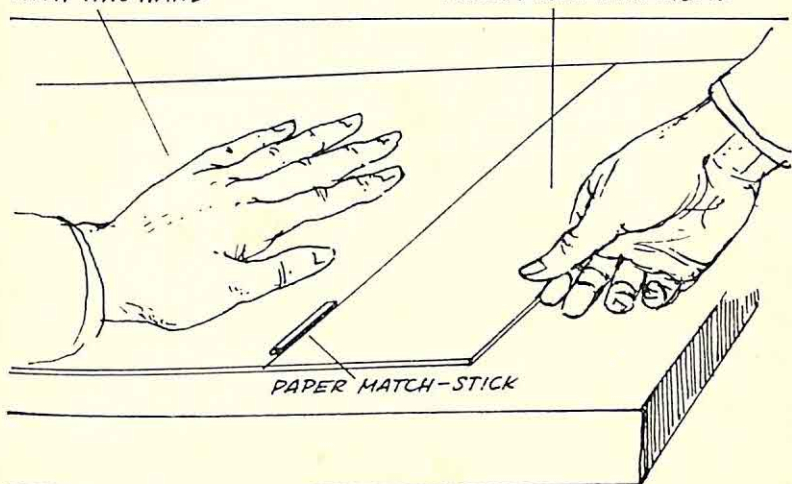

Figure 80
2. Place a paper match-stick or similar-sized piece of wood or a thin ruler *under* the glass as shown in Figure 80, and with your hands apply pressure to the glass.